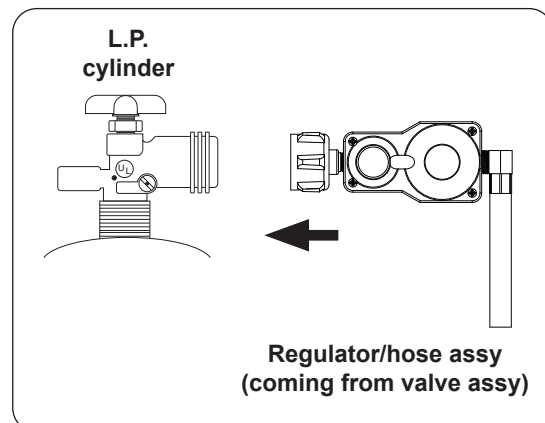

Fig. 2-3 Connect hose assy to L.P. cylinder
3. Attach the regulator end of the hose assembly to the L.P. cylinder and tighten (see Fig. 2-3).